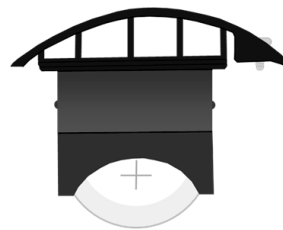

Fig. 4B
3. Fig. 4B shows the tray and battery as seen from the front of the Indicator. Fig. 4C shows the reverse. Remove the existing battery.